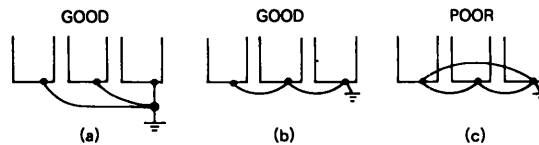

Fig. 7 Grounding of Three VS-616GII Units
- (1) Ground resistance should be  $100\ \Omega$  or less.
- (2) Never ground VS-616GII in common with welding machines, motors, and other large-current electrical equipment, or ground pole. Run the ground lead in a separate conduit from leads for large-current electrical equipment.
- (3) Use ground lead listed in Table 18 (page 47) and make the length as short as possible.
- (4) Where several VS-616GII units are used side by side, all the units should preferably be grounded directly to the ground poles. However, connecting all the ground terminals of VS-616GII in parallel, and ground only one of VS-616GII to the ground pole is also permissible (Fig. 7). However, do not form a loop with the ground leads.